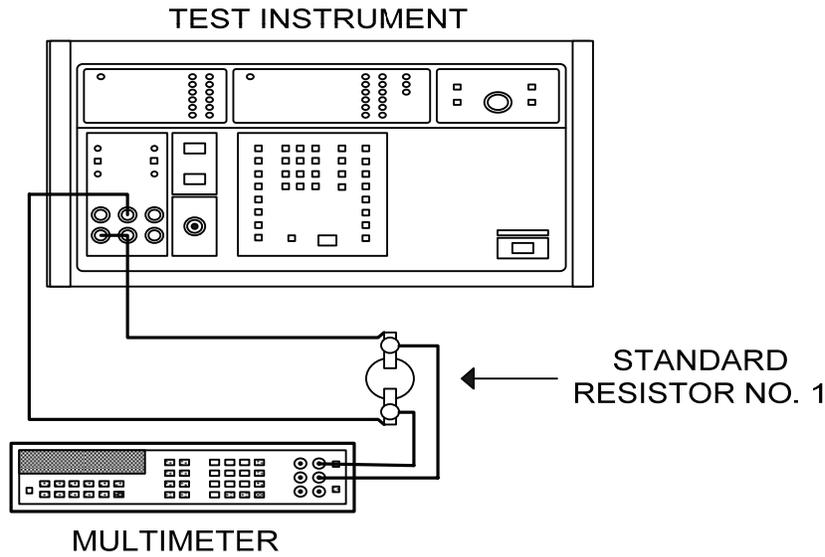

Figure 3. Dc current (1 A).
d. Connect equipment as shown in figure 3.